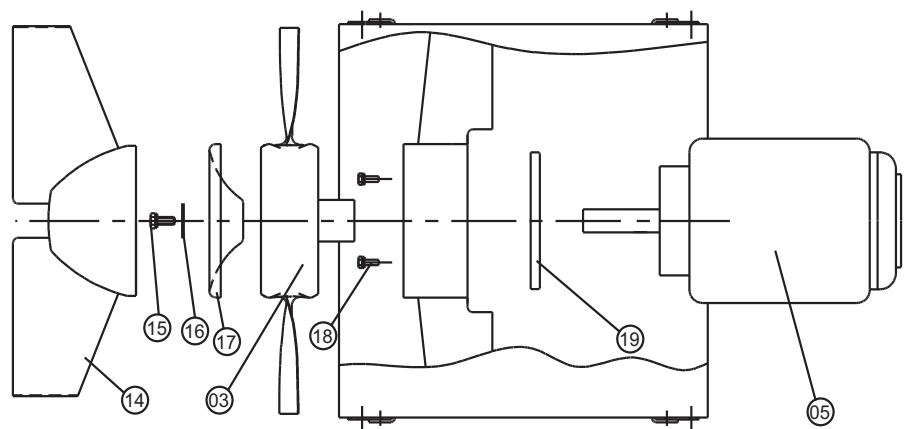

Figure 3. Dismounting/Mounting of motor
- 4 **ARR:** Remove screws in guide plates of centre fairing and pull out centre fairing figure 3, item 14.
- 5 Remove centre screw of impeller item 15 and centre disc figure 3, item 16.
- 6 **AUR:** Remove hub cover figure 3, item 17.
- 7 Dismount impeller figure 3, item 03 by means of a puller fastened in the two threaded holes of the hub boss.
- 8 Remove 4 set screws figure 3, item 18.
- 9 Dismount motor item 05 and motor flange figure 3, item 19. Note the placing of the motor prior to dismounting. When dismounting and disassembling the fan be careful not to expose the individual parts to shocks etc. likely to damage the motor bearings or other fan components.
- 1 After servicing remount the motor figure 3, item 05, see that the motor flange item 19 is correctly located and that the motor shaft is concentrically placed in the fan casing before tightening the set screws item 18.
- 2 Mount the impeller figure 3, item 03 on the motor shaft by means of screws fastened in the threaded hole of the motor shaft. Fix the impeller hub to rest against the motor shaft collar. Check that the blade clearance is the same throughout the circumference of the casing. If this is not the case, adjust the motor location in the mounting frame arrangement.
- 3 Mount centre screw figure 3, item 15, centre disc item 16.
**AUR:** Mount hub cover item 17.
- 4 **ARR:** Mount the centre fairing figure 3, item 14.